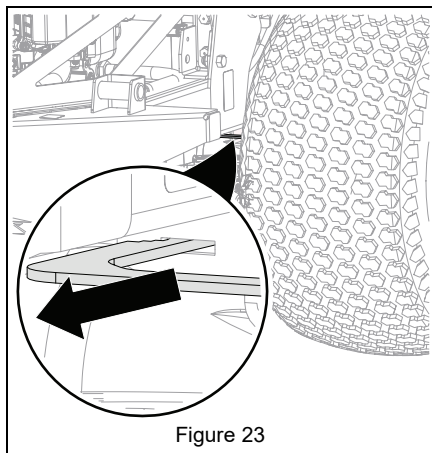

Figure 23
2. Pull both transaxle bypass levers out into bypass position. See Figure 23.